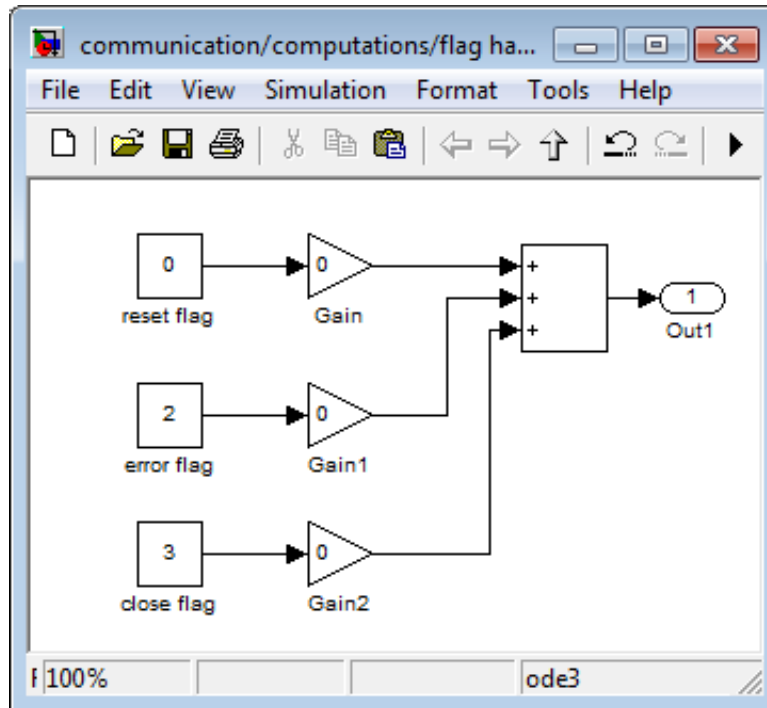

Figure 3.70: TCP/IP subsystem “flag handling out”
- (6) Open the subsystem “flag handling out”, see figure 3.70. In default no handling flags are transmitted to HOTINT.